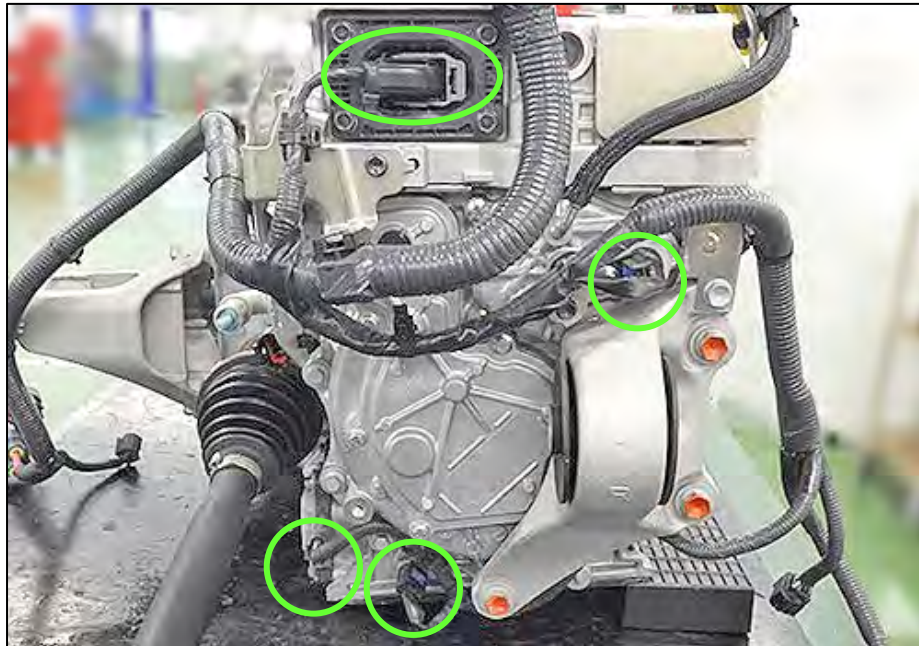

Figure 84
106. Disconnect the four (4) wiring harness connectors shown in Figure 84.
- Located on the passenger (RH) side wiring harness.